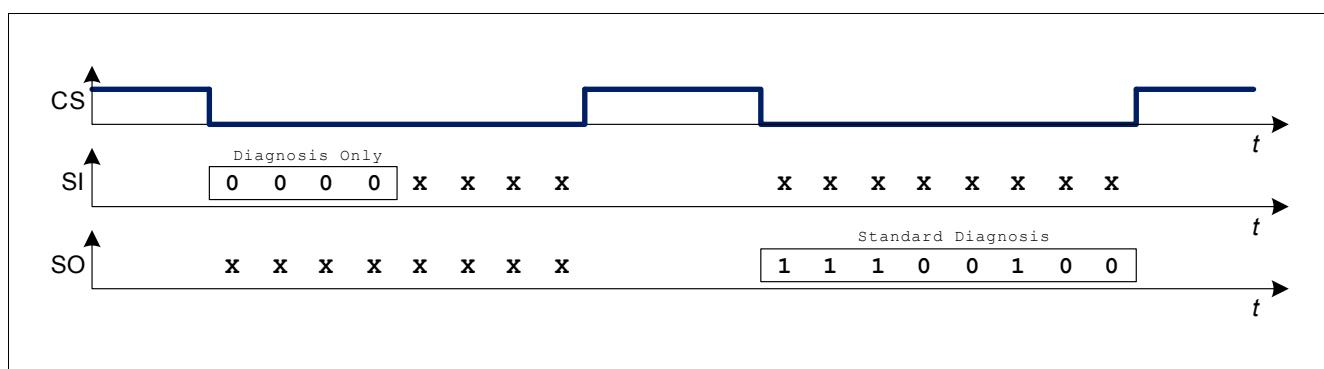

Figure 14 Diagnosis Only
The contents of the diagnosis register will be returned during the next SPI access. This command is only active once unless the next control command is again “Diagnosis only” (see Figure 14).
In the example shown in Figure 14, the standard diagnosis reports short circuit to ground for channel 1 (00), open load for channel 2 (01), over load / over temperature for channel 3 (10) and normal operation for channel 4 (11).